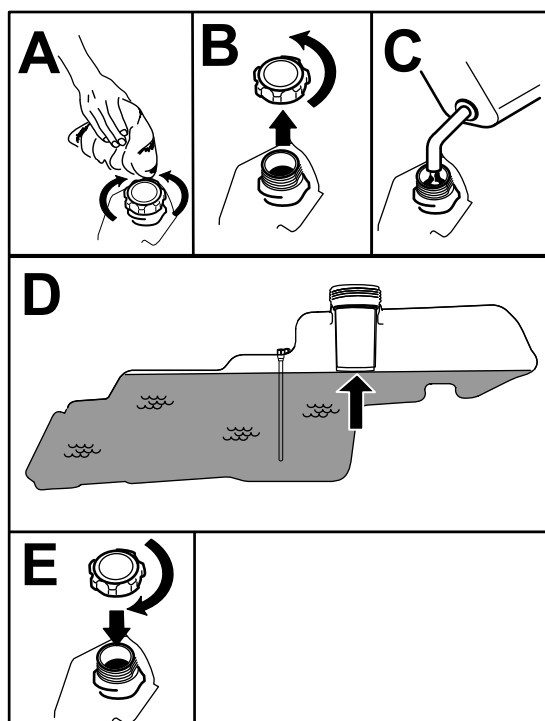

Figure 7
- Fill the fuel tank to the bottom of the filler neck (Figure 7). Do not fill the fuel tank completely full